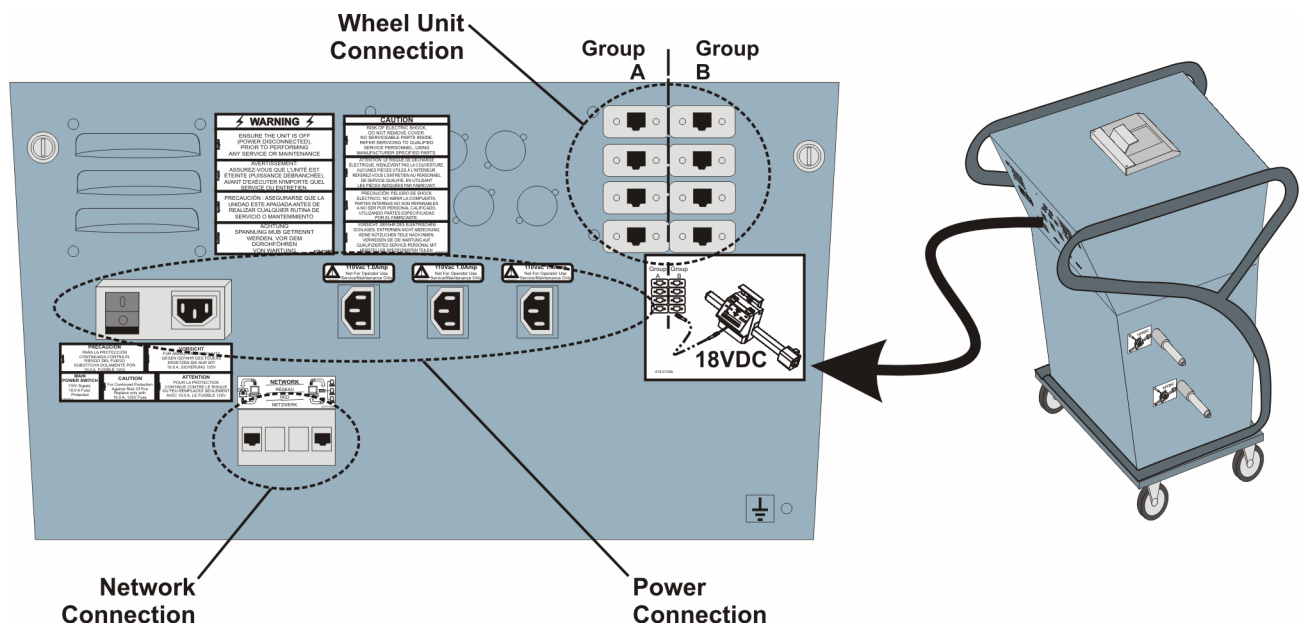

Figure 2-2. Rear Access Panel – Typical View.
- 2.2.2 Rear Access Panel Assembly. On the backside of the cabinet is the rear access panel assembly. This panel serves as a mounting panel for internally and externally connected devices and is an access to the internal electrical components. Refer to Figure 2-2.